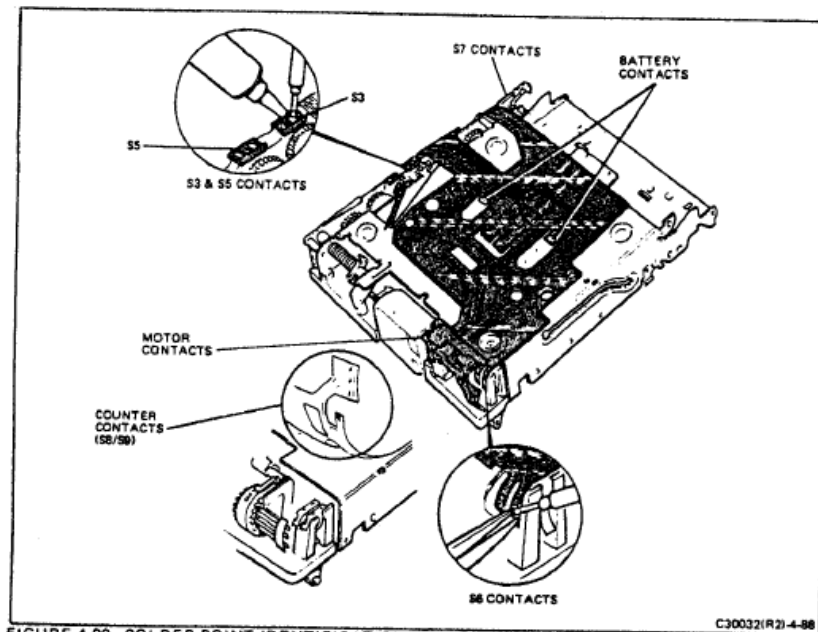

FIGURE 4-88 SOLDER POINT IDENTIFICATION
6. Referring to Figure 4-88 for the location of flex circuit contacts, unsolder the following contacts: (Use a solder-gobber with the soldering iron and tweezers to help separate the contacts.)
NOTE: In the remaining steps, refer to Figure 4-88 for the location of contacts mentioned.